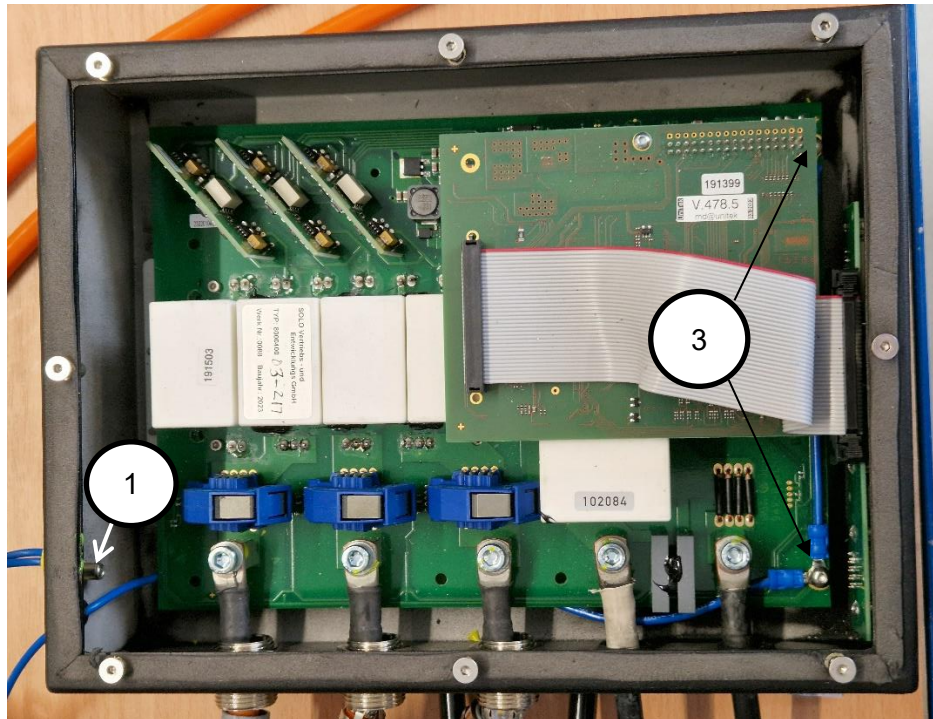

Fig. 1: Motor Controller
- Action 4:** In case of a Motor Controller (MC) Power Fault, check the continuity between the screws at Position 3 in Figure 1: Motor Controller and Position 1. The resistance must be less than 0,2 Ω .